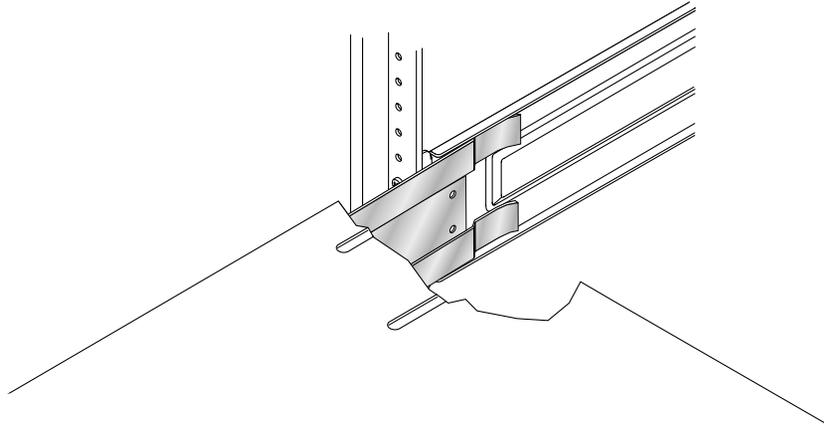

FIGURE 8 Inserting the Array Back Bracket Into the Rack Rail
- 1. Lift the array and align the forked ends of the array back brackets with the rack rails (FIGURE 8).**